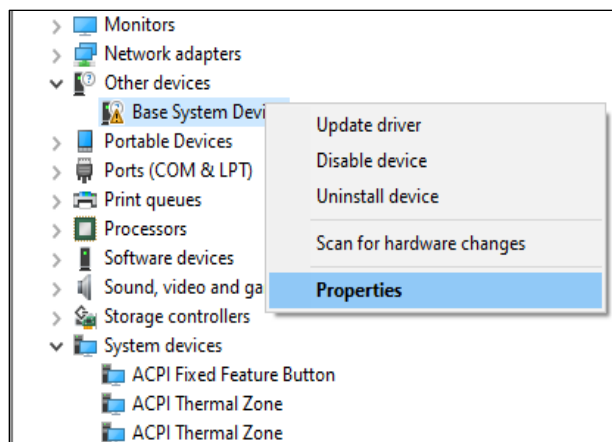

Figure 5.36. Showing Device Properties
2. Right-click the device and select **Properties** as shown in Figure 5.36.